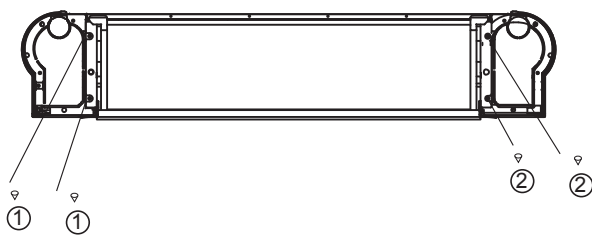
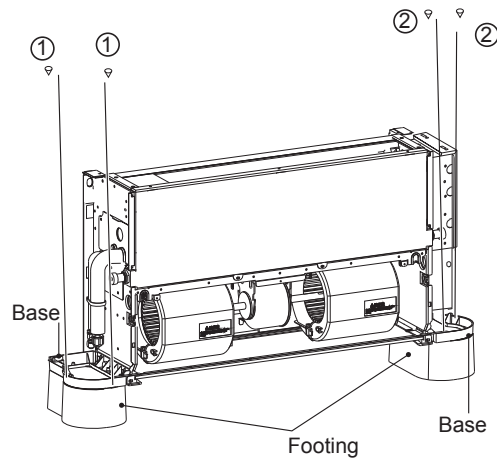

Fig.4-6a,for covered product
Fig.4-6b
The footings shown in Fig.4-6a, Fig.4-6b are optional. You can purchase them separately and install them as follows:
1. For covered product, should fix the bases according to Fig.4-6a before.
3. Place the mounting holes on the unit base into the corresponding footing locating pin and install screws ①\*2 and ②\*2 to fix the footing according to Fig.4-6b.